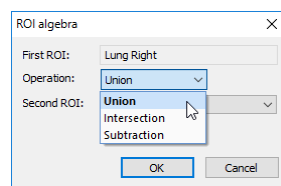

Figure 264 – ROI algebra dialog, defining the algebraic operation
3. Select the algebraic operation in the **Operation** combo box (see Figure 264).